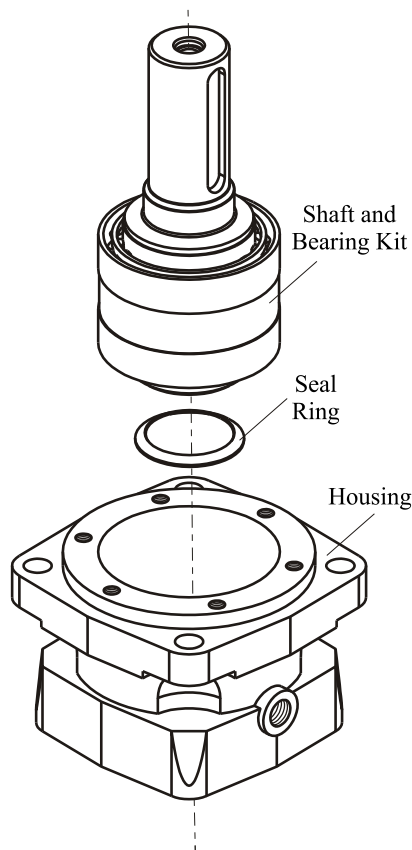

Fig.9
1. Place housing with the hole $\varnothing 90$ mm upwards on a soft pad of hydraulic press table (see Fig.9). Lubricate sealing ring and place it in the housing. Lubricate bearing surface. Move the shaft with internal spline into the housing hole. Use the hydraulic press to stave the unit.